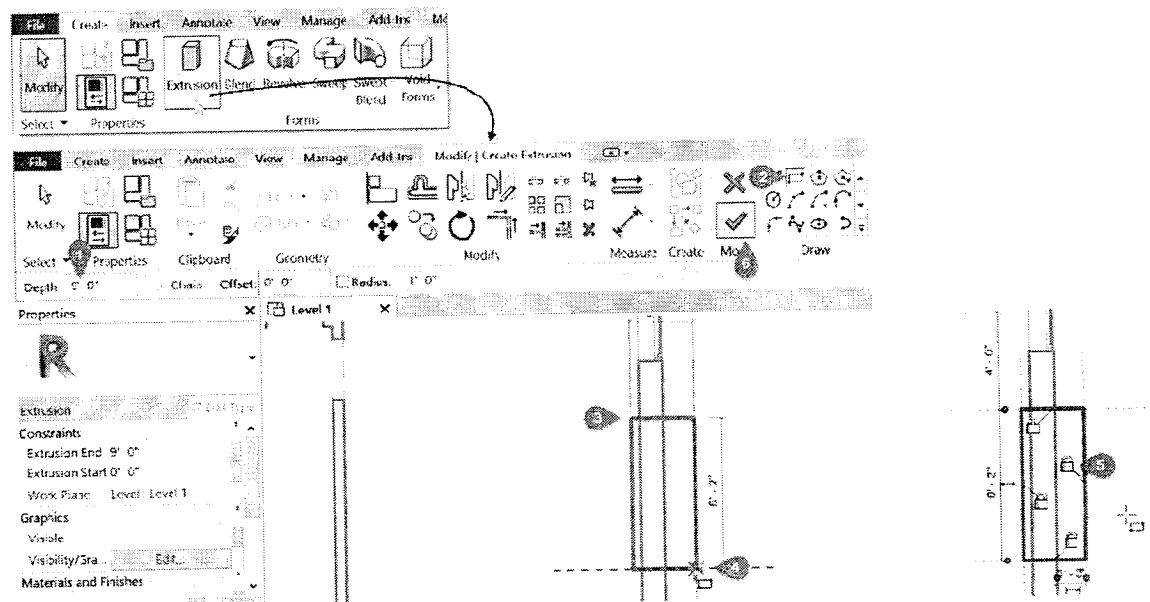

FIGURE 4.62 Sketch the overall shape of the extrusion
1. On the Create tab, on the Forms panel, click the Extrusion tool (see the top of Figure 4.62).
⇒ On the Options Bar, in the "Depth" field, type: 9'-0" [2750]. (Be sure to set the Depth and not the Offset—Item 1 in Figure 4.62.)
2. On the Draw panel, for the sketch shape, click the Rectangle icon (see item 2 in Figure 4.62).
⇒ Snap to the intersection of two of the reference planes and then snap to an opposite intersection to define the rectangular shape (see items 3 and 4 in Figure 4.62).
⇒ Close all four padlocks (see item 5 in Figure 4.62).
3. On the Modify | Create Extrusion tab, on the Mode panel, click the Finish button (large green checkmark) (see item 6 in Figure 4.62).